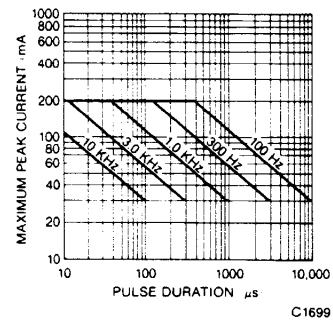

Fig. 3. Maximum Peak Current vs. Pulse Duration
2. The curve in Figure 3 is normalized to the brightness at 25°C to indicate the relative efficiency over the operating temperature range.